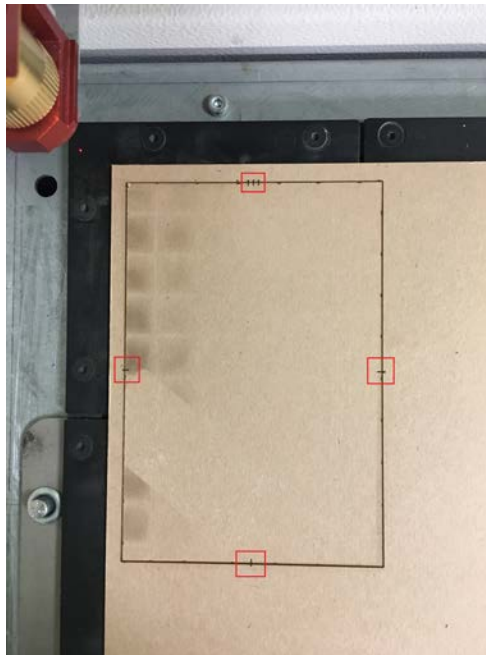

Figure 29: Alignment of the flipped window to the previous position for Side 2 cut
- a. The triple notches go at the top (Fig 29).